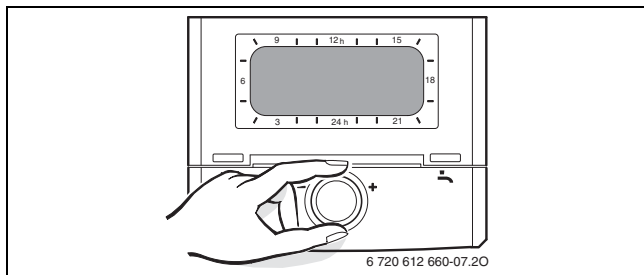

Fig. 5
- Weather compensating control unit (→ page 14, Fig. 5) installed in the boiler (→ page 11, [19])